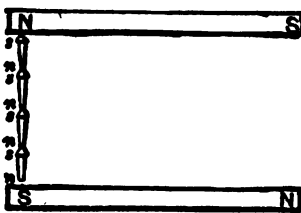

Fig. 84. Increased Magnetizing Effect of Unlike Poles.
(2) Attach nail to one magnet as before and then as in Fig. 84 place the other magnet below. The effect of the upper magnet is the same as before. The lower magnet acts inductively on the nails, but the south pole of the magnet acts on the lower end of the last nail, so that the polarities induced are the same as those induced by the upper magnet. The result is a stronger magnetic